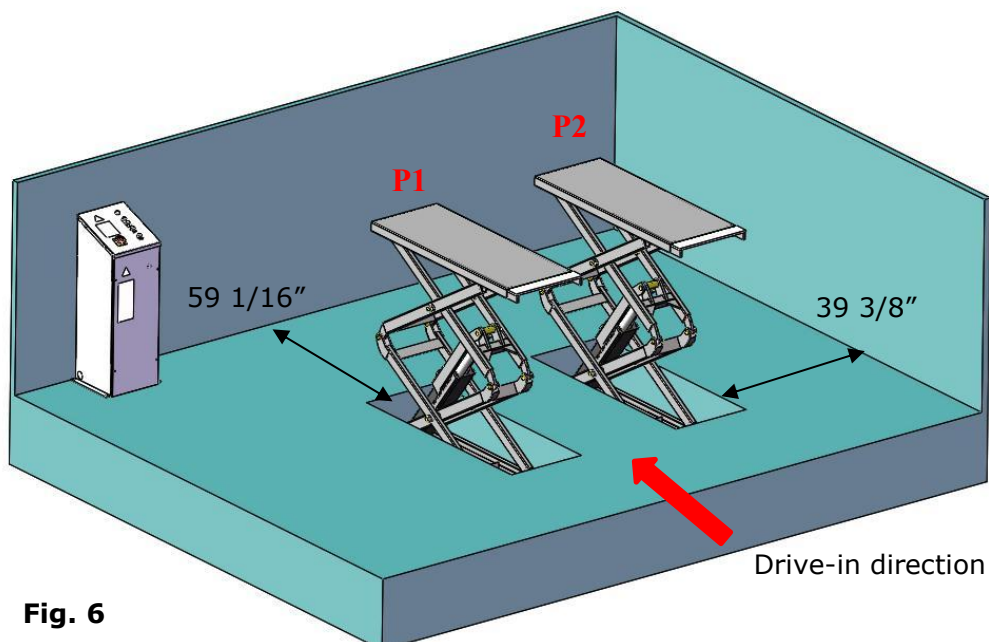

Fig. 6
1. Installation space: Ensure there is enough space for the lift. Accurately measure the front, back, side and top mounting dimensions and refer to the below figure data(See Fig. 6).